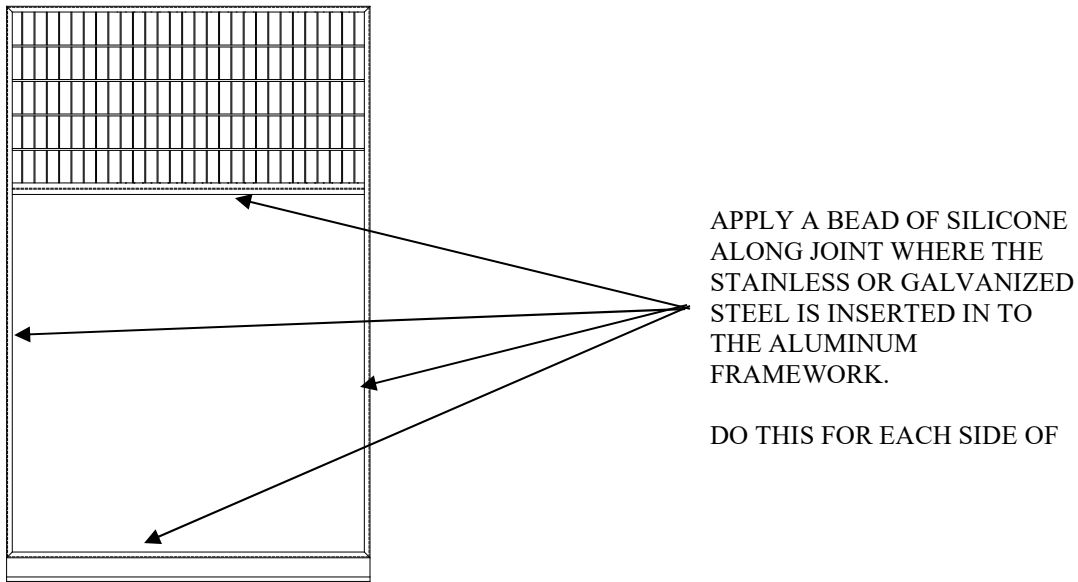

Figure 24
3. **If your system is built with Stainless Steel panels you will need to seal the perimeter of the stainless steel on both sides of the panels. Apply a thin bead and wipe away excess with denatured alcohol applied to a shop rag. Refer to Figure 24.**